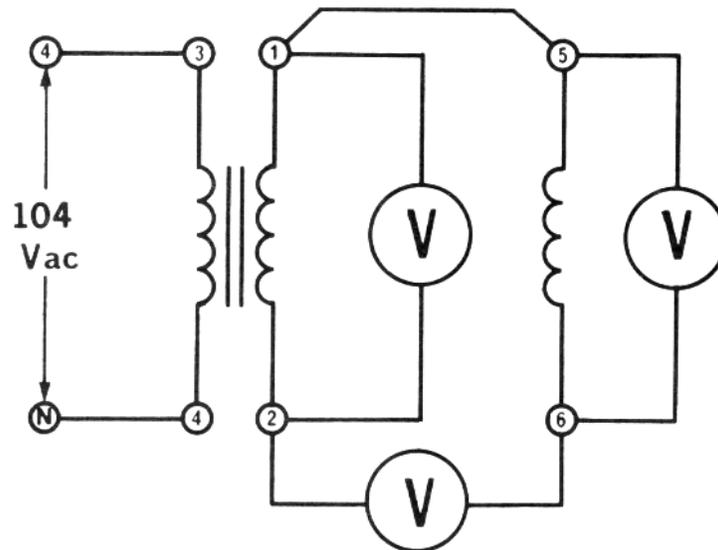

Figure 04-4
- 3) We will study next the importance of polarity of windings. Construct the circuit illustrated in Figure 04-4. Observe that the input voltage is supplied this time to another winding, i.e. 3-4.